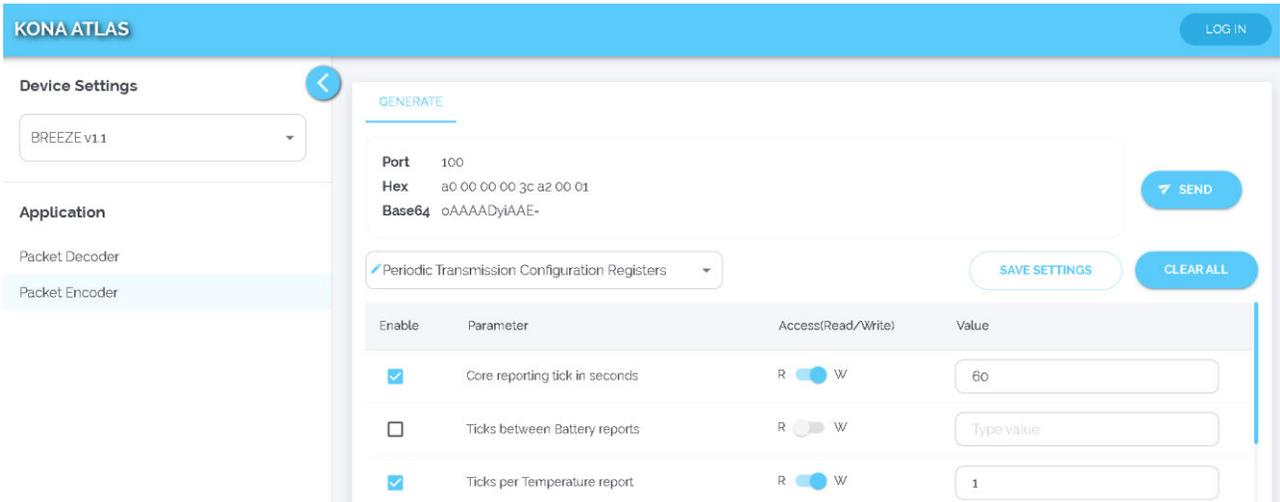

Figure 4-3: ATLAS Web Interface
4. Enter the desired values as shown in Figure 4-3.